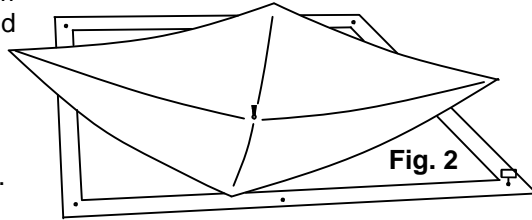

Fig. 2
2) Unfold Tent and screw in Ice Anchor at one corner eyelet. (Fig. 2)